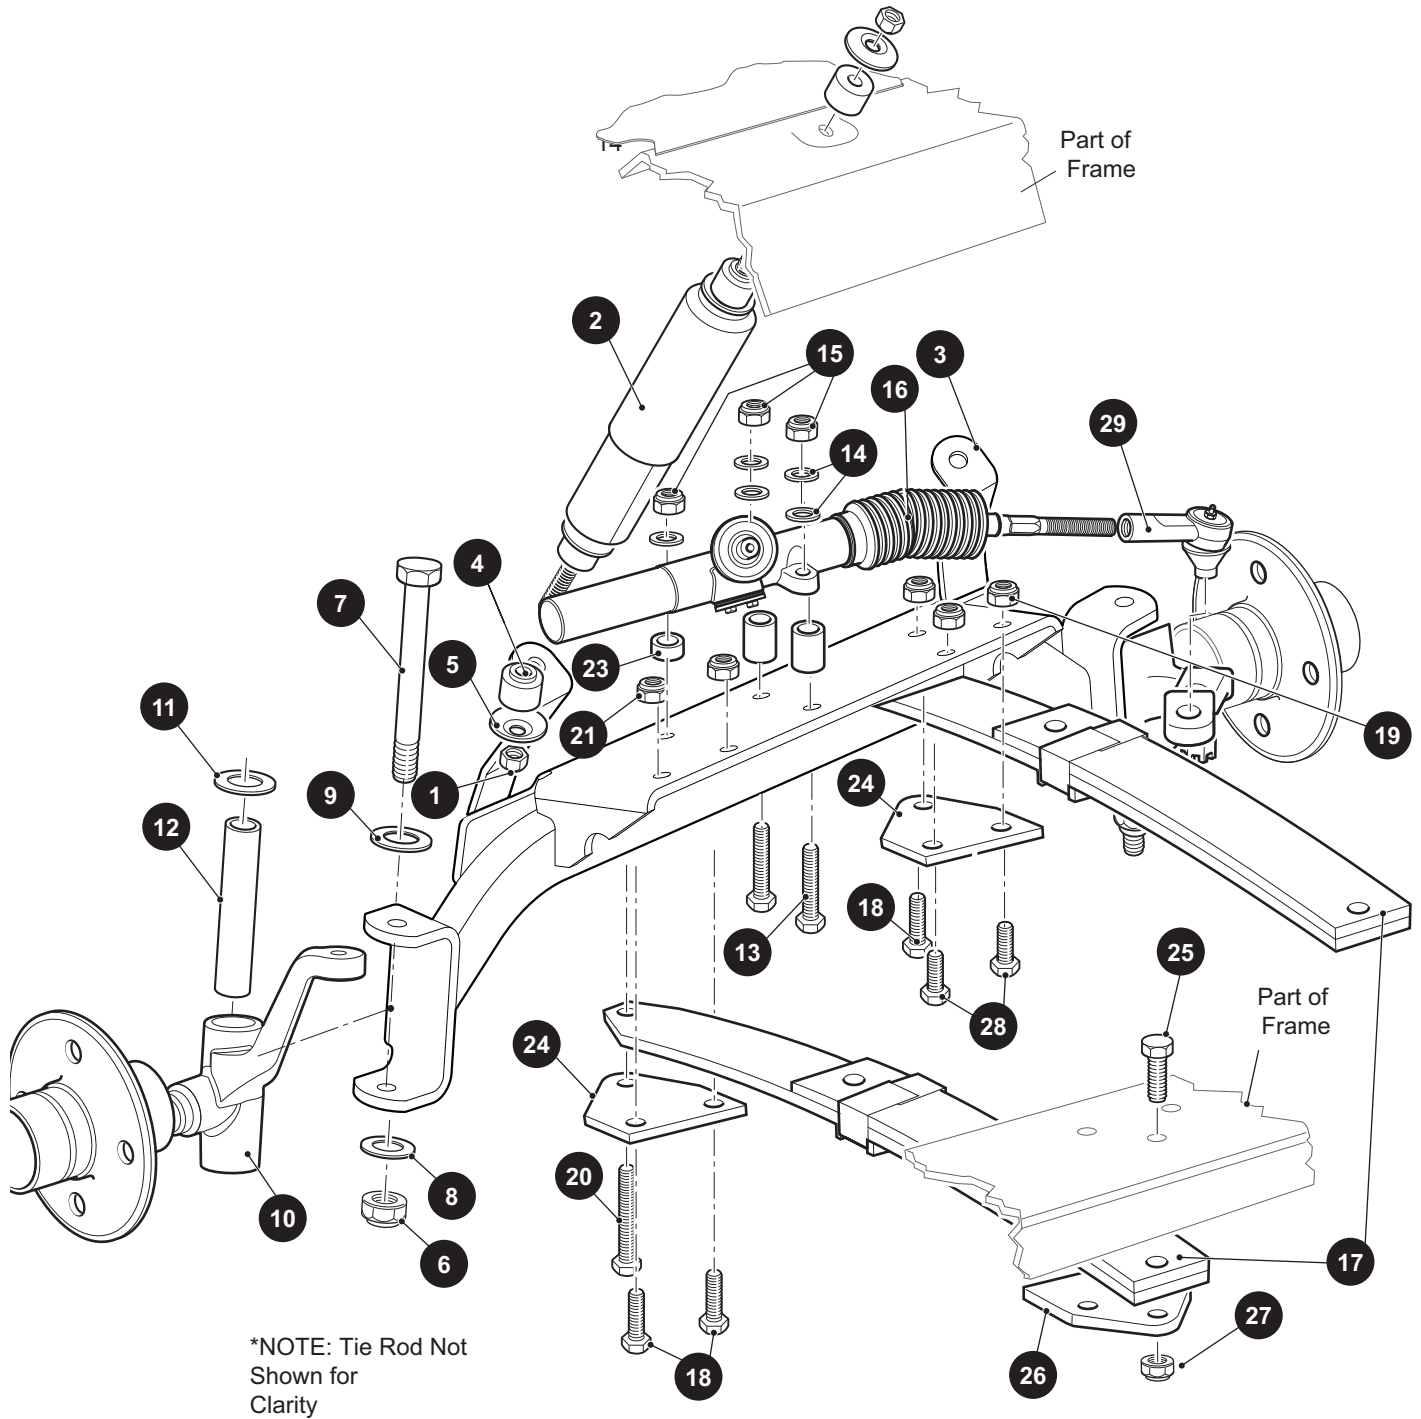

Figure 6 Front Suspension Components
Remove the nut (1) from the bottom of the shock absorber (2) at the front axle (3) (Ref. Figure 6).
Remove hardware (1, 4, 5) securing shock absorbers (2) to front axle (3)(Ref. Figure 6).
CAUTION *To prevent stress and possible damage to the rack and pinion unit, the axle must first be mounted to the springs with the hardware (20 - 23) installed in its original location (Ref. Figure 6).*
Front axle installation is the reverse order of disassembly using new lock nuts (15, 19). All hardware (18 - 24, 28) must be installed in its original location (Ref. Figure 6).
CAUTION To prevent stress and possible damage to the rack and pinion unit, the driver side spring must be mounted to the axle with the hardware (20 - 23) installed in its original location (Ref. Figure 6).
Remove the hardware (18, 19, 24, 28) securing the front of the passenger side leaf spring (17) to the axle (3) and discard lock nuts (19) (Ref. Figure 6).